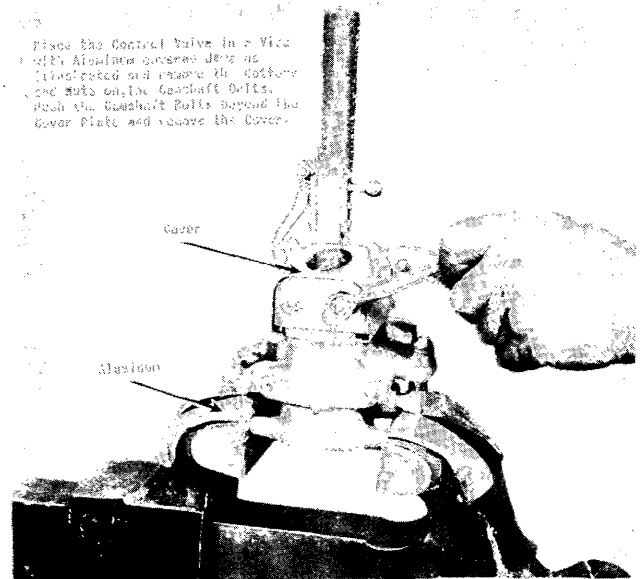
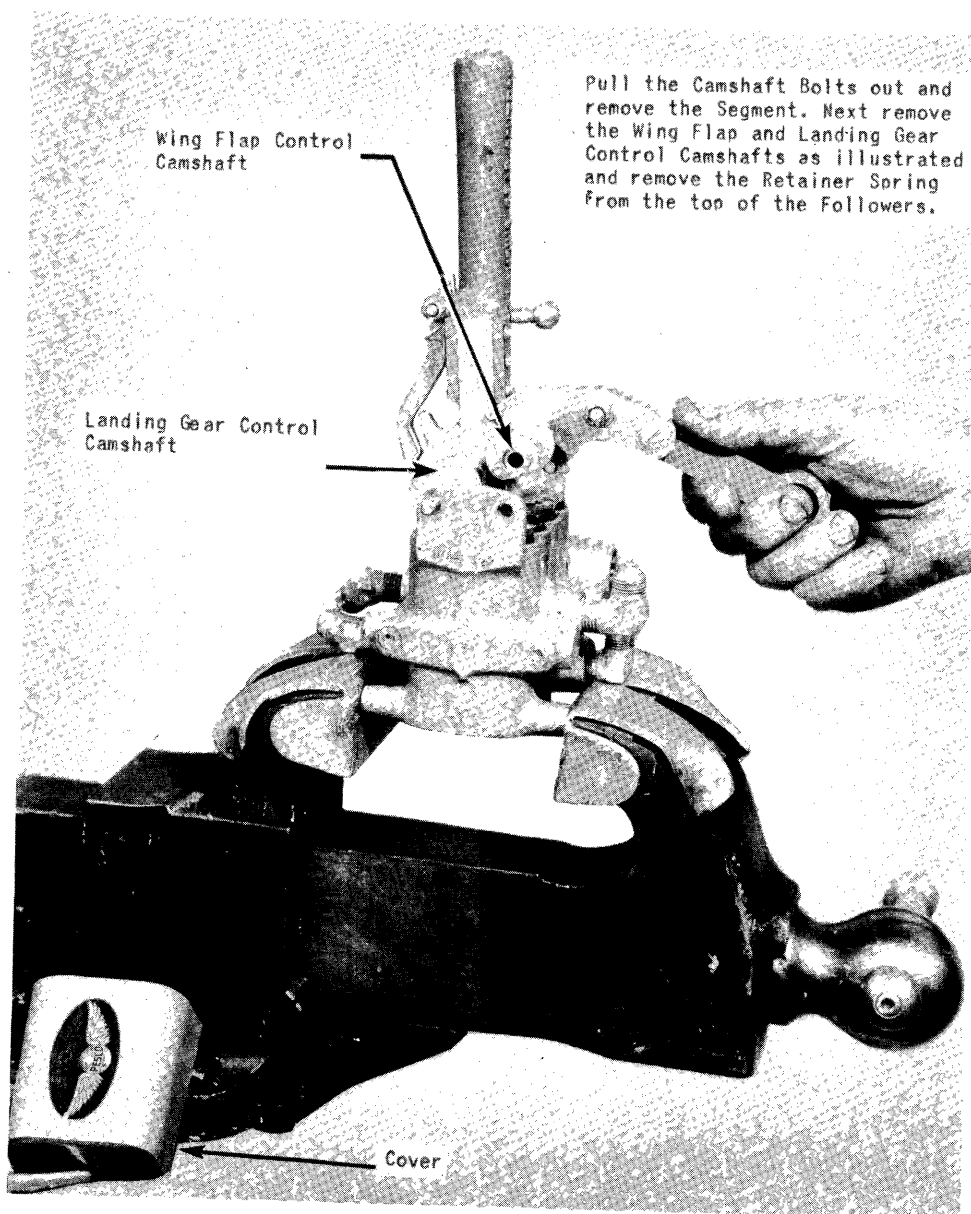

Figure 128 - Removing Nut on Camshaft Bolt
Figure 129 - Removing Control Camshaft
(1) Place the control valve in a vise with aluminum covered jaws (figure 128) and remove the cotters and nuts from the two camshaft bolts.
(2) Push the bolts back beyond the valve cover and remove the cover from the valve body.
(3) Pull the bolts and the segment completely out of the camshafts and lift the camshafts from the valve body. (See figure 129.)